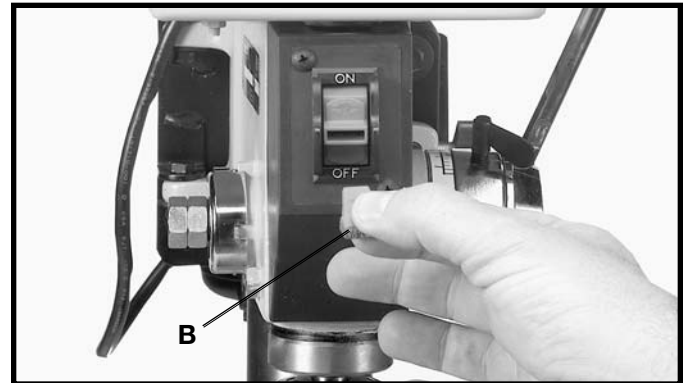

Fig. 22
**IMPORTANT:** When the tool is not in use, the switch should be locked in the “OFF” position to prevent unauthorized use. This can be done by grasping the switch toggle (B) and pulling it out of the switch, as shown in Fig. 22. With the switch toggle (B) removed, the switch will not operate. However, should the switch toggle be removed while the drill press is operating, the switch can be turned “OFF” once, but cannot be restarted without inserting the switch toggle (B).